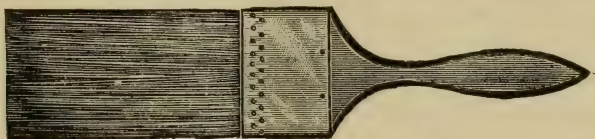
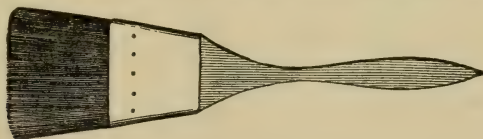

Fig. 27—Walnut Stipplers.
Fig. 28.
s. Grainers use a few bristle brushes which are shown by the following illustrations: Fig. 27 shows the stippler used in putting in an all over coarse grain as in walnut, chestnut, etc. Fig. 28 shows the fantail overgrainers which are sized according to width of head from 1 inch up to 4 inches wide by half inch grad-